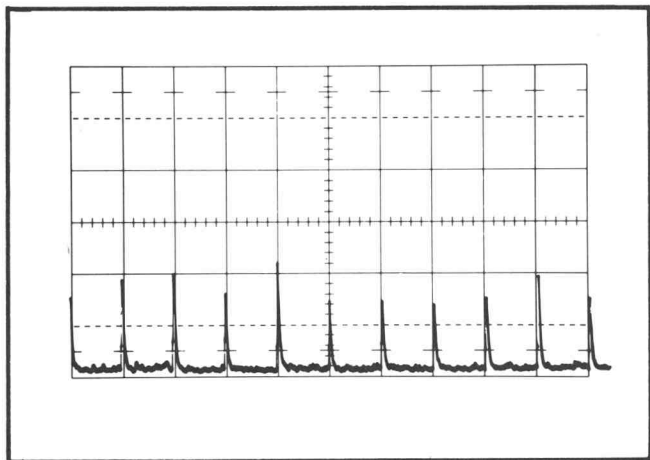

Fig. 2-7. Measuring pulse repetition rate (50 μs/cm sweep).
4. Set the Time/Cm switch of the oscilloscope to display several pulses of the applied signal (see Fig. 2-7). Be sure
5. Count the number of lines (pulses) in one or more divisions and use the oscilloscope sweep rate to compute the time between each pulse. In the example of Fig. 2-7, the pulse repetition rate is: